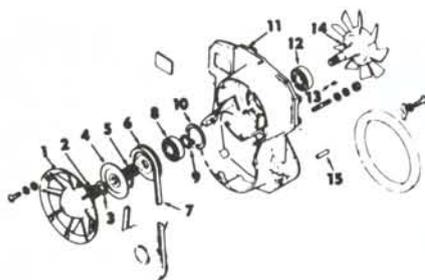

Fig. JD11—Exploded view of cooling fan and housing unit.
**COOLING FAN AND BELT.** Belt tension should be adjusted to allow no more than 3/8-inch deflection midway between pulleys when depressed with finger. Belt can be adjusted by adding or removing shims (5—Fig. JD11) from between fan pulley halves. Removing shims will tighten belt by allowing pulley rims to move closer together. Turn pulley slowly when assembling to keep from pinching belt in pulley. Removed shims can be stored outside of outer pulley half for re-use when a new belt is installed.